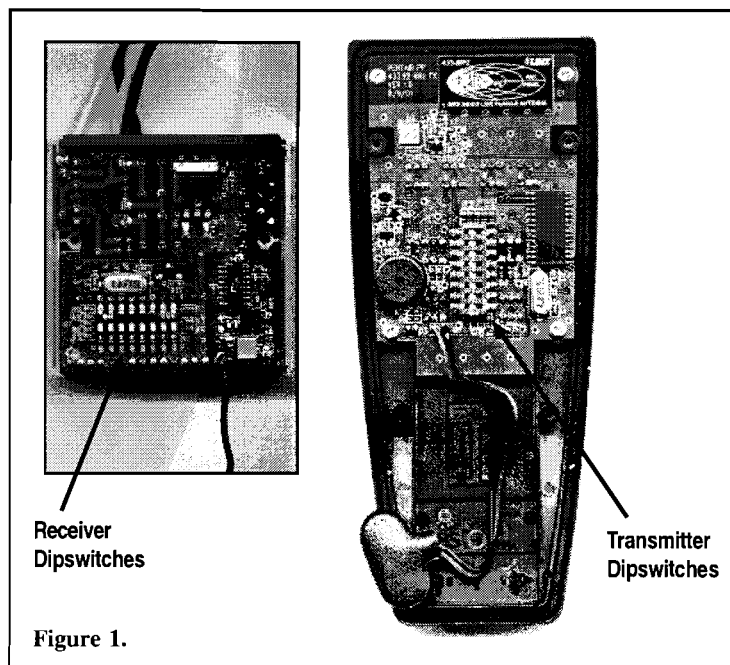

Figure 1.
1. If the installation has multiple PG2000s and individual control of each unit is desired, there are four available channels on the transmitter. Each channel may control more than one unit. Set the channel code in the receiver by switching dipswitches 5 and 6 inside of the receiver, (see Figure 1). The default factory setting is Channel 1. See Table 1 for proper dipswitch settings.
1. If the unit experiences interference from other RF devices, (e.g. neighbor has RF2000), the addressing must be changed in both the receiver and transmitter. See Figure 1 for dipswitch locations and Table 2 for addressing options.